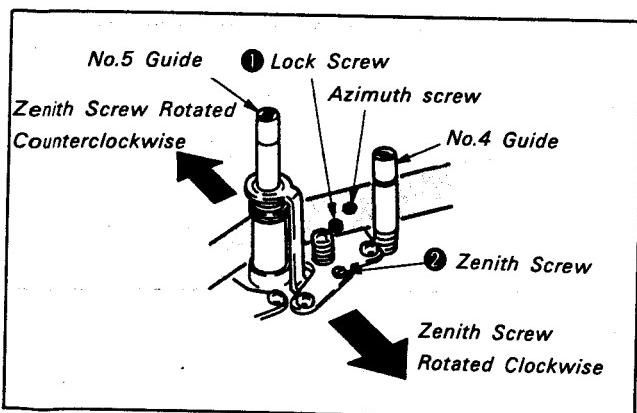

Fig. 4-11
- 1) Play back the alignment tape (WR5-1C) for tracking. Rotate No.4 guide counterclockwise and No.5 guide clockwise in order to make the tape running on the exit side free. (Fig. 4-11)
- i) Rotate the lock screw ① counterclockwise to loosen.
- ii) Slowly rotate the zenith screw ② 45° at a time and wait until the RF waveform varies.
- iii) Rotate the lock screw ① clockwise to tighten. (Fig. 4-11)